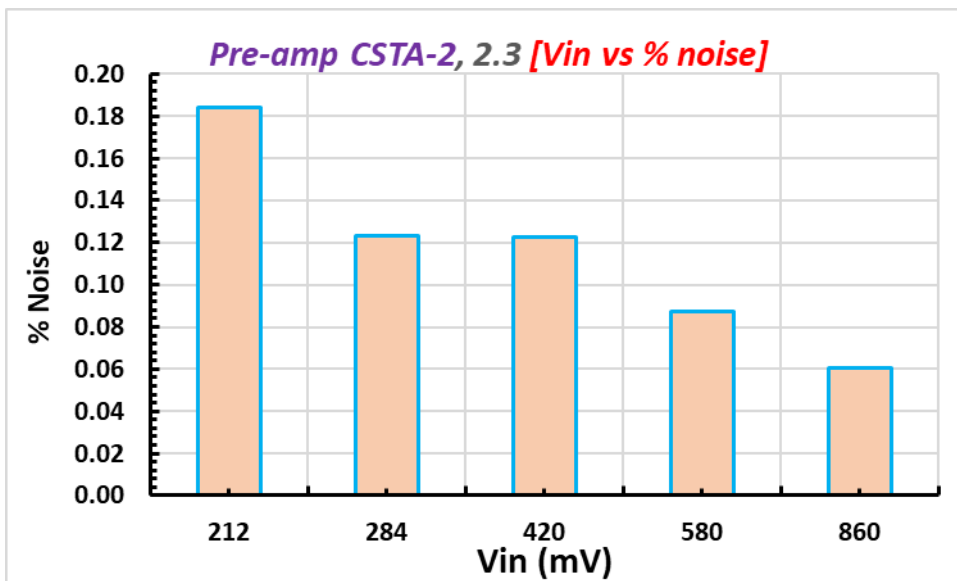

Figure 2: Noise (in %) at different input voltages using MCA for preamplifier CSTA-2, 2.3.
- Noise (in %) is decreasing with increasing input voltages, which is also expected, and the noise is below 0.30 % for all the preamps within the studied input voltages [see figure 2].